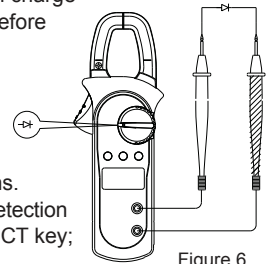

Figure 6
4. Diode measurement (V) (See Figure 6)